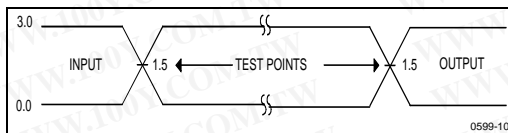

Figure 10. High Speed Test Waveform
2. 5% V_{CC} specifications apply to the high-speed test configuration (Figures 10 and 12).